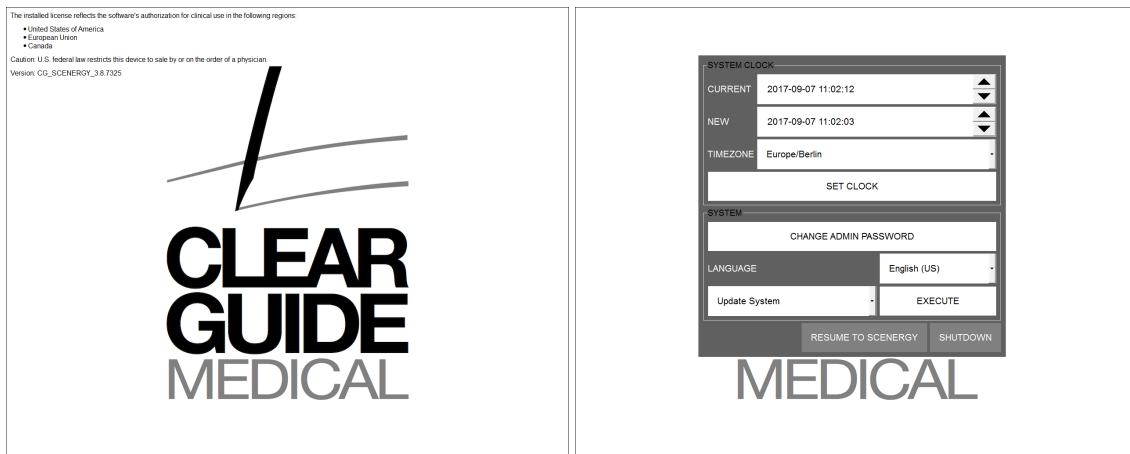

Figure 16: Startup screen (left); Startup Administrative Dialog (right)
3. Turn on the **CLEAR GUIDE CORE** by pressing the front power button. The startup sequence may take several minutes. The system automatically starts the system software (Figure 16 left).
To access the **Startup Administrative Dialog** (password-protected), keep tapping the screen during startup or press the LeftShift+RightShift+Ctrl keys on a keyboard until the dialog appears (Figure 16 right).